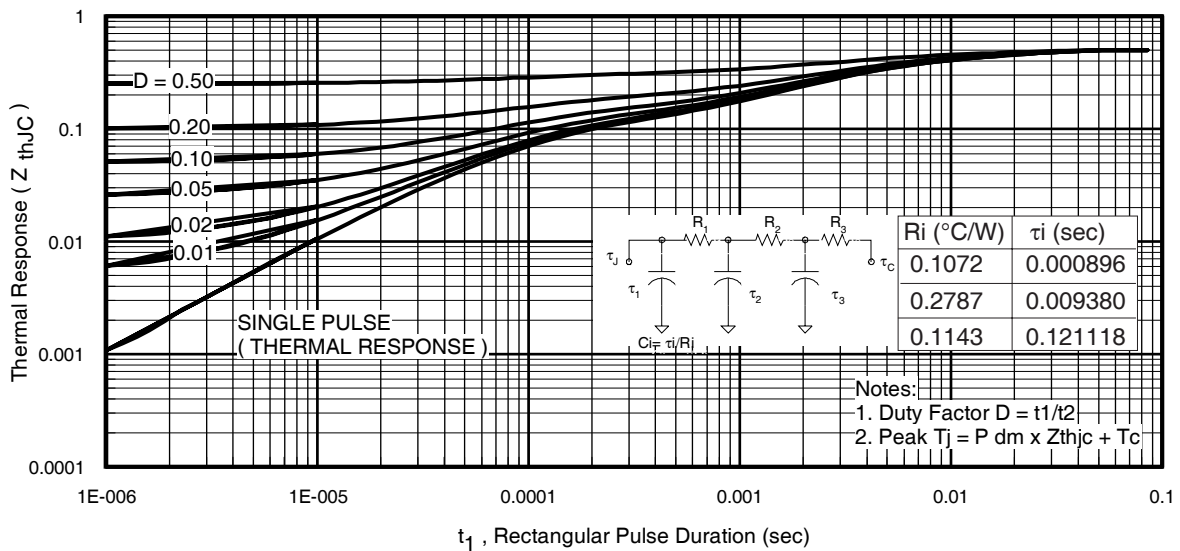

Fig 11. Maximum Effective Transient Thermal Impedance, Junction-to-Case
- ① Repetitive rating; pulse width limited by max. junction temperature. (See fig. 11).
- ② Limited by T_{Jmax} ; starting $T_J = 25^\circ\text{C}$, $L = 0.026mH$, $R_G = 25\Omega$, $I_{AS} = 110A$, $V_{GS} = 10V$.
$Z_{thJC}(D, t_{av})$ = Transient thermal resistance, see figure 11)